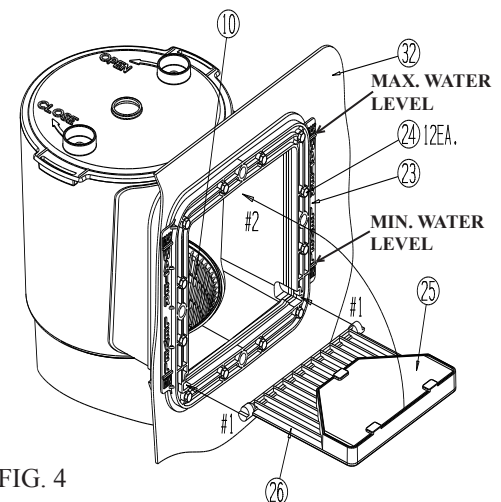

FIG. 4
E. Place the Filter Cartridge (9) and the Strainer Basket (10) back into the Skimmer Canister (8). It is important that the Filter Cartridge (9) slips over the Pump Retaining Nut (7) and seals at the bottom of the canister so that the Strainer Basket (10) will seat in it's groove inside the canister. See Fig. 4. Place the Lock Top (11) on top of the Skimmer Canister (8) and lock it in place by turning it clockwise until it is locked. Push the Weir Foam Pad (25) into the Weir (26) and under the tabs, to hold it in place. Take the Weir (26) and slide it into the grooves from inside the pool. See Fig. 4. Once the weir is pushed inside the grooves, flip it over as shown by the Arrow #2 in Fig. 4, to lock it in place. **NOTE:** The weir can **ONLY** be pushed into the grooves as shown by Arrows #1 in Fig. 4, by holding it horizontal. Be sure the weir moves freely through the opening, if not carefully trim away any obstructing material to allow the weir to move freely.
F. After the pool is filled, SEE (WATER LEVEL FIG. 4) check the hose connections and fittings to make sure there is no water leakage. If any leaks are found, see #4